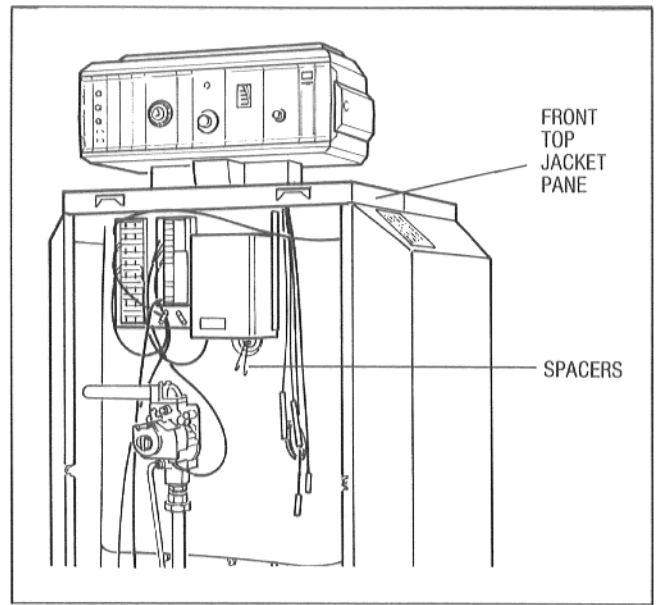

Fig. 4: Front side
- Identify the 004 sensor. This sensor is approximately 1.5 inches long and has a insulated white lead that is connected to the green FK plug. The STB sensor is labeled with a "N" near the 3.5 inch long copper sensor. Route the 004 and the STB sensors under the front top jacket panel to the sensor well located on the front of the boiler (Fig. 4/5). Remove the spacers from the well and install the 004 and STB sensors in the well.